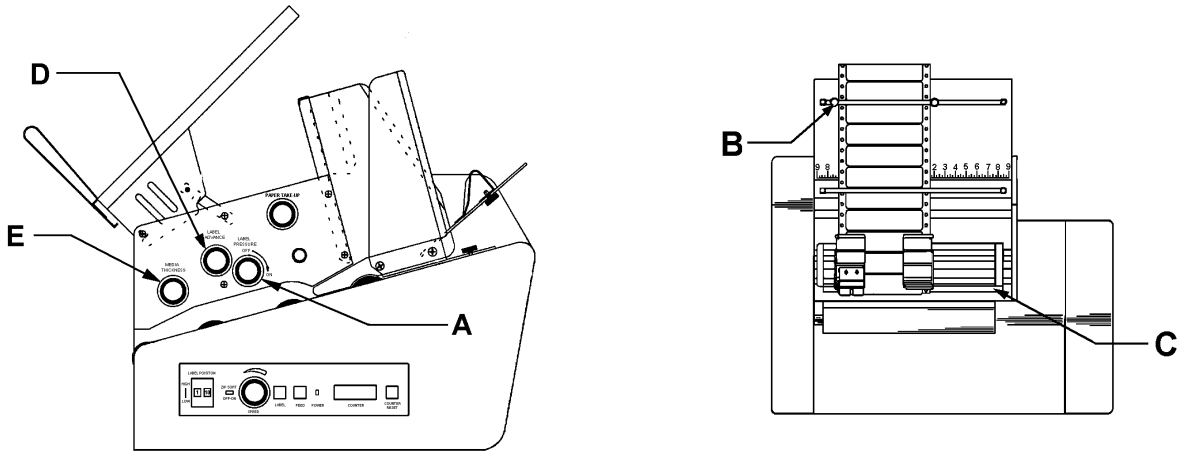
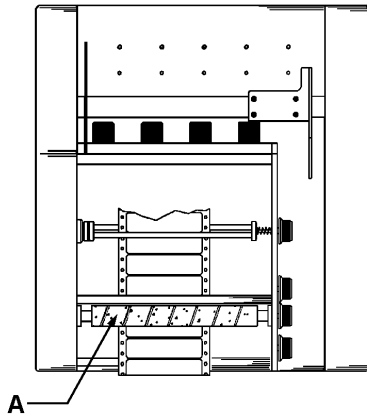
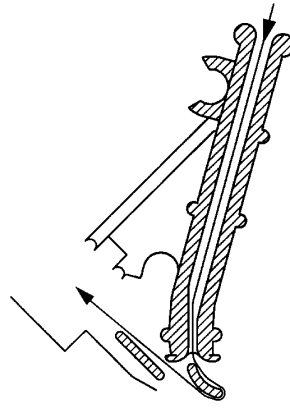

Figure 3
Figure 4
Figure 5
4. Disengage Label Advance Rollers by turning **LABEL PRESSURE KNOB [Figure 3-A]** to **OFF** position.
5. Thread labels into Tabber/Labeler following **LABEL THREADING DIAGRAM [Figure 5]**.
6. Loosen Label Guides **[Figure 3-B]**.
9. Make sure label peels off straight and is parallel with peeling edge **[Figure 3-C]** and **[Figure 5]**.
10. Turn **LABEL PRESSURE KNOB [Figure 3-A]** to **ON** position.
11. Turn **LABEL ADVANCE KNOB [Figure 3-D]** COUNTERCLOCKWISE until leading edge of next label is visible.
14. Adjust **MEDIA THICKNESS KNOB [Figure 3-E]** to desired setting.
4. Disengage Label Advance Rollers **[Figure 4-A]** by turning **LABEL PRESSURE KNOB [Figure 3-A]** to **OFF** position.
6. Position tabs by moving entire stack to desired location. Loosen Guides **[Figure 3-B]** and align them with stack of tabs.
10. Turn **LABEL ADVANCE [Figure 3-D]** **COUNTERCLOCKWISE** until a tab is in slot **[Figure 6-C]**.
13. Set media height by adjusting **MEDIA THICKNESS KNOB [Figure 3-E]**.
9. Thread stamps into ATS-9700 following **LABEL THREADING DIAGRAM** **[Figure 5]**.
14. Set media height by adjusting **MEDIA THICKNESS KNOB** [Figure 3-E].
2. Thread labels into Labeler following diagram [Figure 5 or Figure 5-A].
3. Turn LABEL ADVANCE KNOB [Figure 3-D] until first label (or tab) just starts to peel off backing paper.